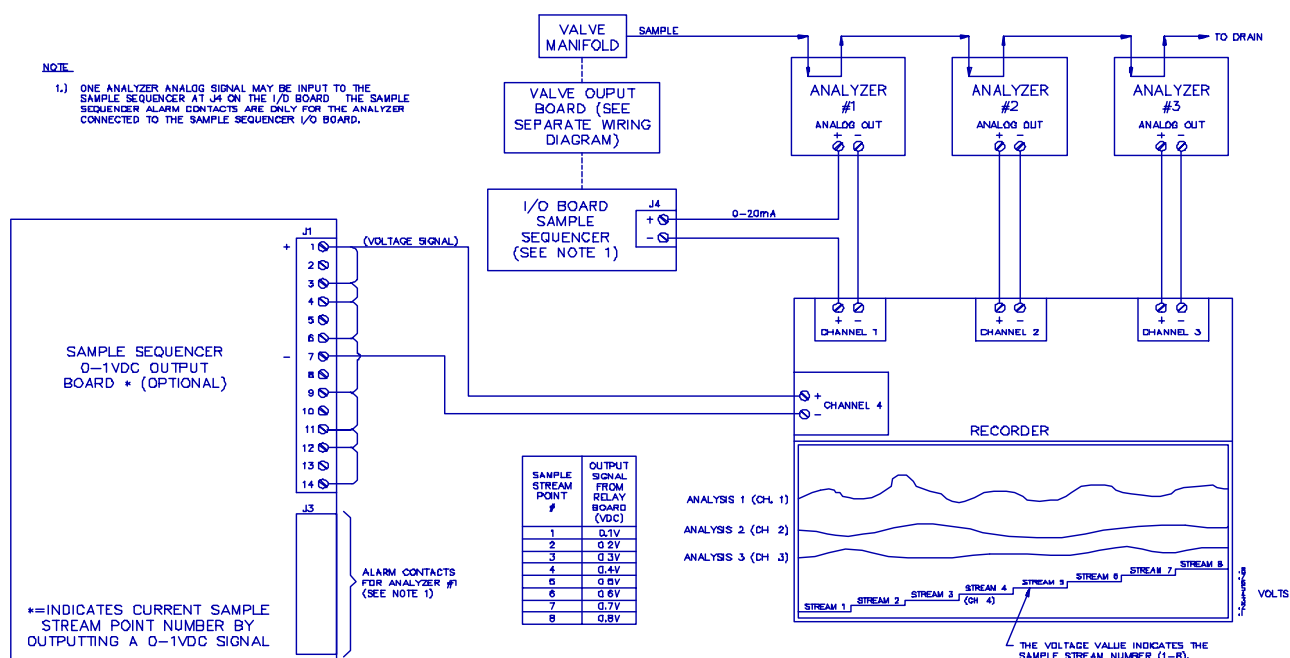

FIGURE 21 - Recorder Connections For One or More Analyzers
**0-1 Volt Signal Output Board** (6-02547E) is used to provide an analog signal of 0 to 1 Volt DC indicating the current sample point number which is in Dwell. This optional board is used when the recorder has insufficient channels to record the analog data from sequencing two or more sample streams to one or more analyzers. (The recorder must have minimum two channels plus one extra channel for each extra analyzer.) Figure 21 shows the wiring connections for a system using three analyzers and a four-channel recorder.
**Wiring to Output 0-1 VDC - Figure 21**
1. The 0 -1 VDC signal switching output board should have the jumpers on J1 as shown in Figure 21. Connect the (+) terminal on the output board to the (+) terminal on the desired recorder input channel using 22 gauge conductor. Connect the (-) terminal on the output board to the recorder (-) input terminal. Maximum cable length is 32 ft. (10m).
- 2B. If using two or more analyzers: Select one of the analyzers for imputing its signal to the Sequencer. Perform step 2A above. Then, connect the remaining analyzer(s) output signals to the recorder input channels as shown in Figure 21.